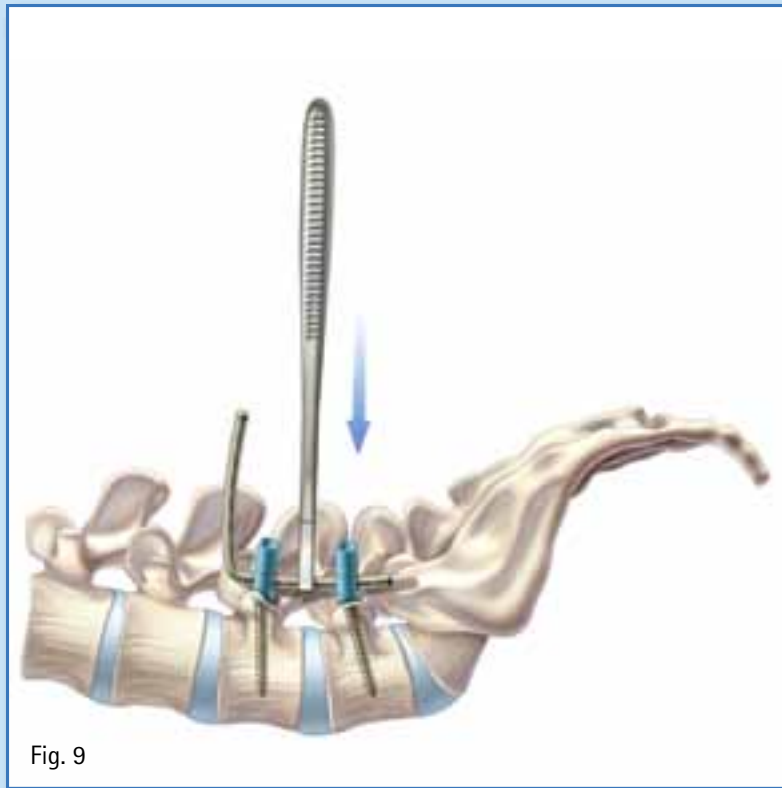

Fig. 9
- Use the flexible rod trails (FW185R) as a guide for rod bending and measuring correct rod length. (Fig. 9)